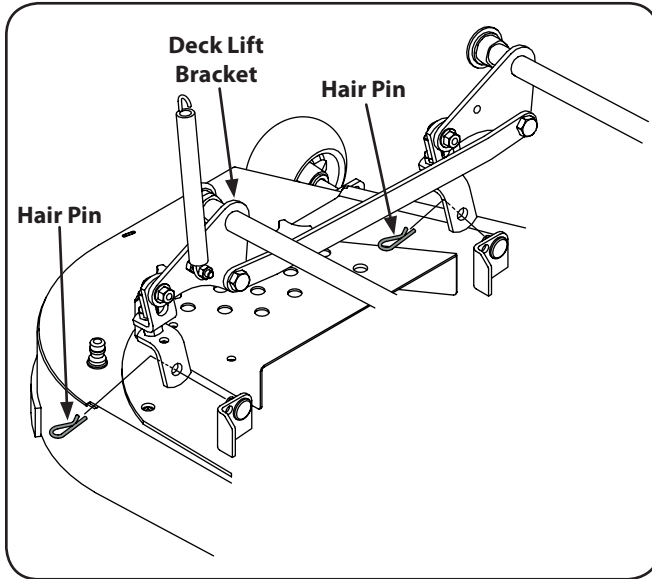

Figure 1-3
- Remove the four hair pins from the right and left side of the deck lift bracket. See Figure 1-3.